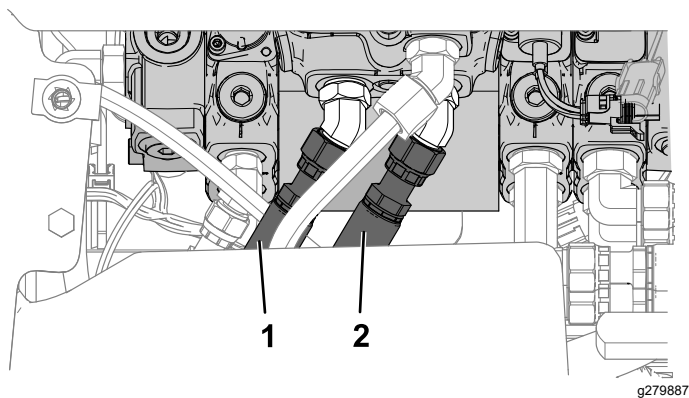

Figure 18
2. Connect the straight fittings to the empty ports on the hydraulic lever valve (Figure 18).